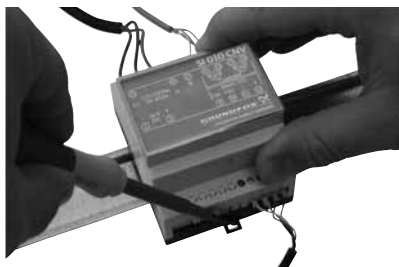

Fig. 9 Mounting SI 010 CNV on DIN rail
1. Pull out the clip using a screwdriver (see fig. 9).